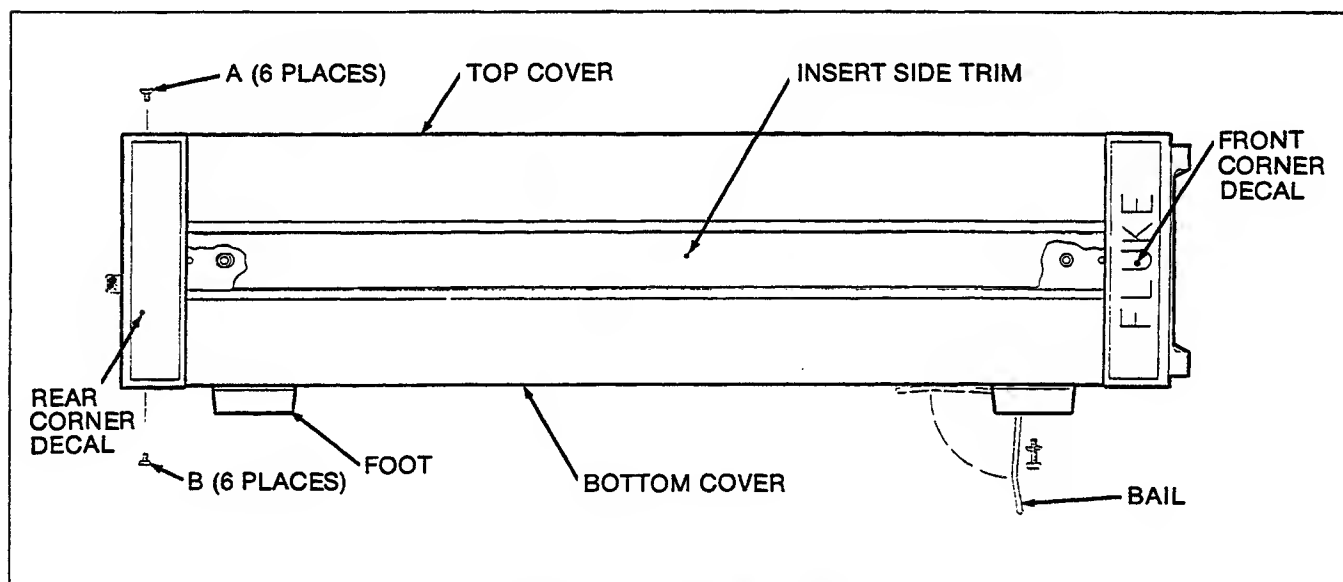

Figure 3-12. Left Side of Case
1. Refer to Figure 3-12. The top and bottom covers are retained by six countersunk screws. It is not necessary to remove the feet.
2. Remove the six retaining screws (A) from the top cover and set the cover aside.
3. Remove the six retaining screws (B) from the bottom cover and set the cover aside.